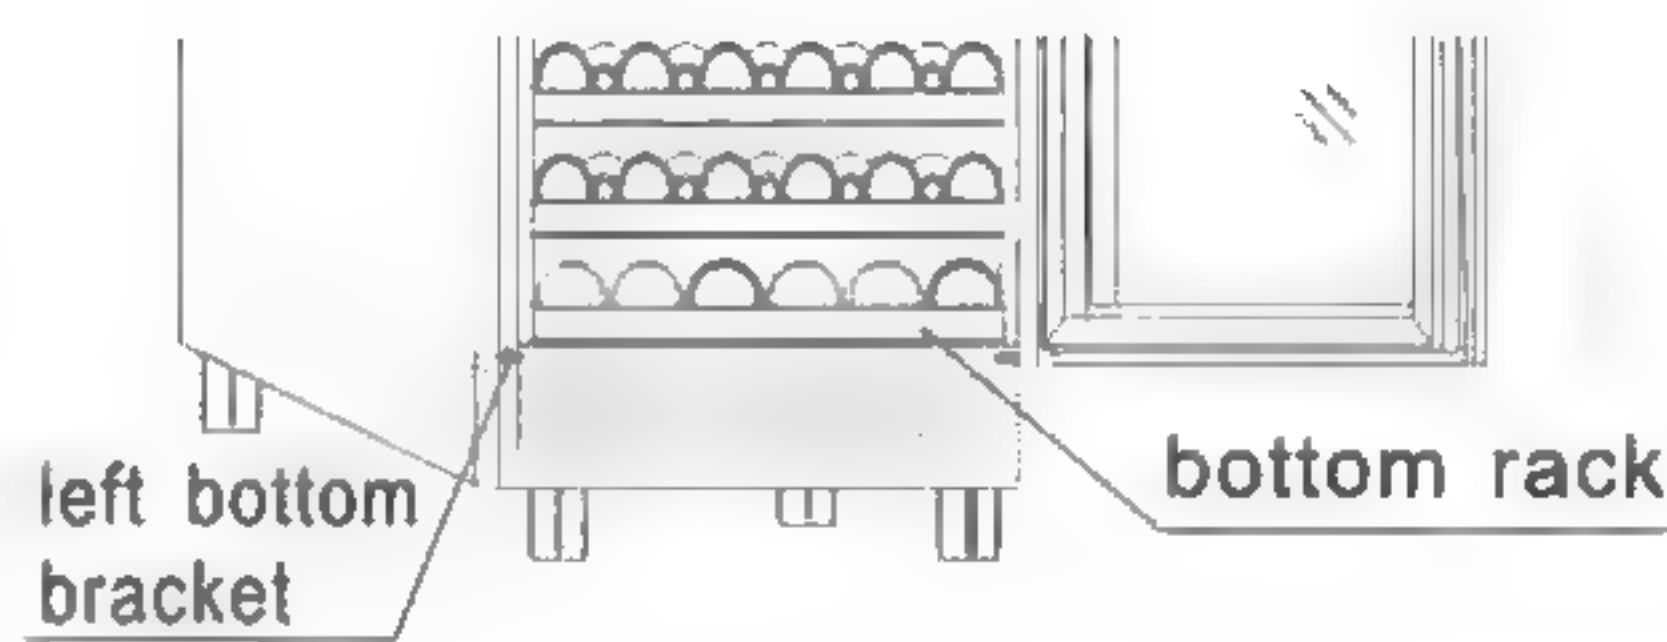

Figure 3
1. When opening door for the first time, please remove the support board on the left bottom bracket. (See figure 3)